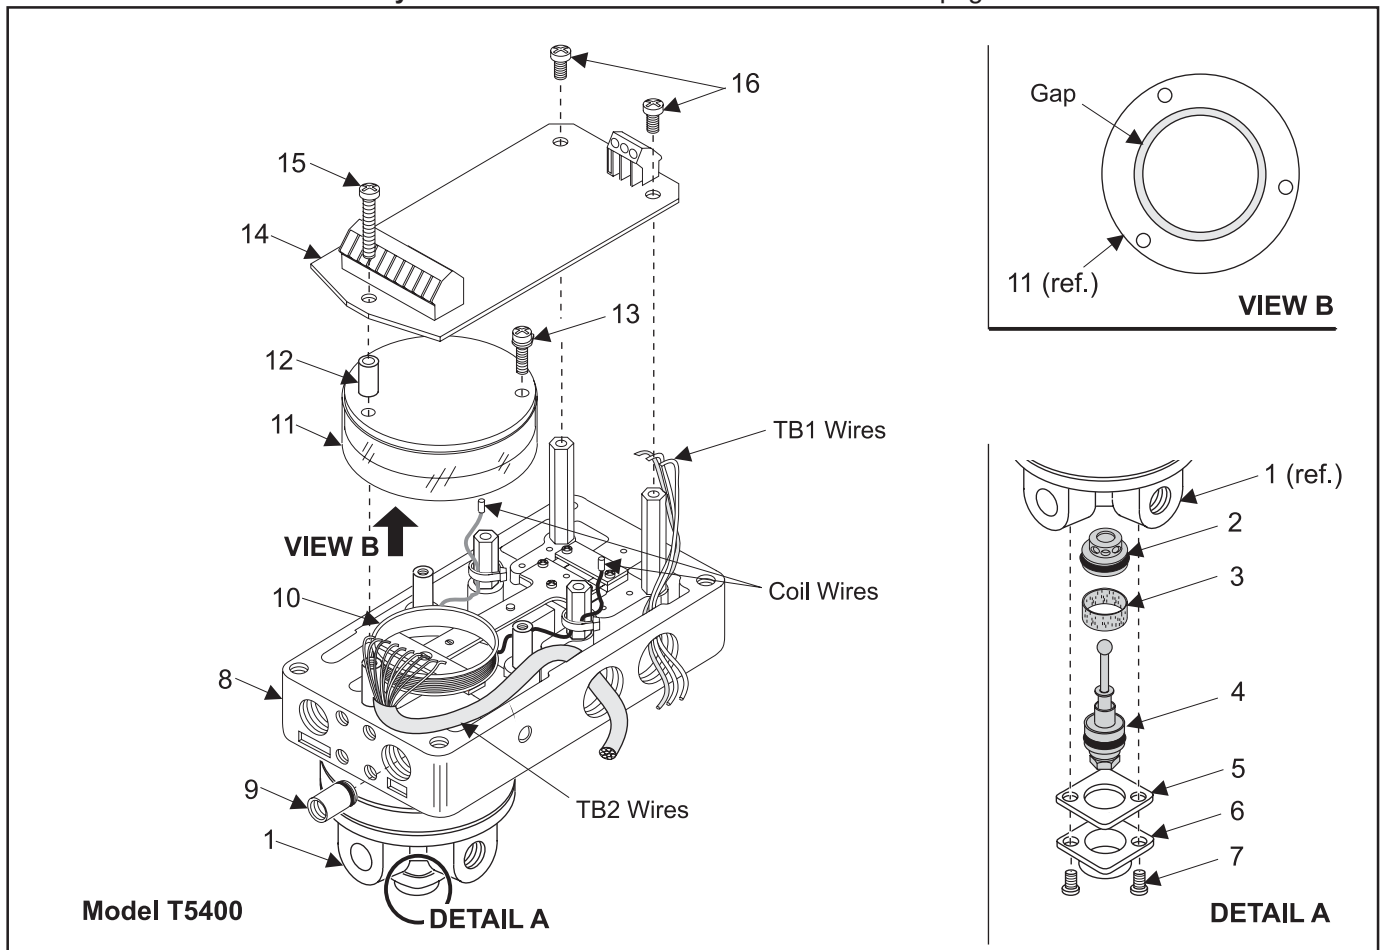

Figure 6. Exploded Drawing.
2. Remove the Orifice Assembly (9) from the unit by threading a 1/4-20" Screw into the orifice housing and pulling it out through the inlet port. For more information, see Figure 6. "Exploded Drawing" below.
2. Remove Screws (7) holding the Retainer Cap (6) and Plate (5) to Booster (1).
3. Pull out Inner Valve Assembly (4) and wash the seat carefully.
4. Wipe off any particles that may be attached to rubber Seat Ring Assembly (2). For more information, see Figure 6. "Exploded Drawing" below.
2. Remove Screws (15) and (16) holding Standoff (12) and PC Board (14) to Transducer (8).
3. Remove two Screws (13) holding Magnet (11) to Transducer (8). Remove Magnet (11) and clean gap of any foreign material with masking tape. For more information, see Figure 6. "Exploded Drawing" below.
4. Place Magnet (11) over Coil (10) and tighten with two Screws (13). Using a non-metallic rod, raise up on the arm to make sure Coil (10) is free to move in Magnet (11).
1. Disconnect wires from TB1 and TB2 on PC Board (14). Remove Coil Wires from underside of PC Board (14).
2. Remove Screws (15) and (16) and Standoff (12) holding PC Board (14) to Transducer (8). For more information, see Figure 6. "Exploded Drawing" below.
3. Replace PC Board (14) with the appropriate PC Board from Table 3. on page 6.